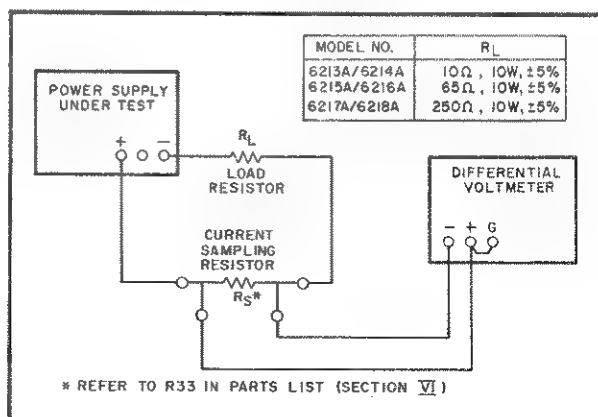

Figure 5-10. Constant Current, Test Setup
- a. Connect test setup shown in Figure 5-10.
- a. Utilize test setup shown in Figure 5-10.